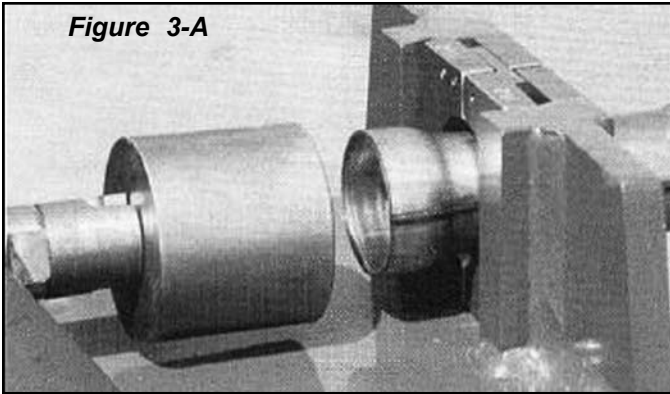

Figure 3-A
10. Install the DOMING DIE on the ST-1 adapter attached to the end of the cylinder shaft. (See figure 3-A)